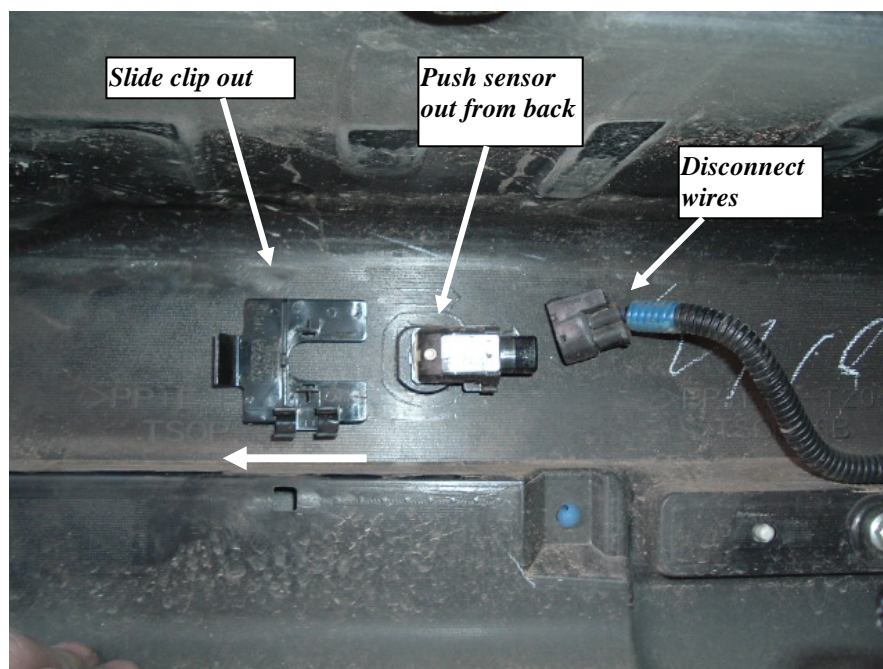

Figure 8 Backup sensor in stock bumper
7. If equipped with backup sensors remove them from the stock bumper. Disconnect the wires from the sensor, slide the retainer clip out and push the sensor out through the bumper face. Install the sensors and wires in the Warn bumper in reverse order. If the vehicle is not equipped with backup sensors, insert the supplied plugs into the sensor holes from the outside. See **Figure 8**